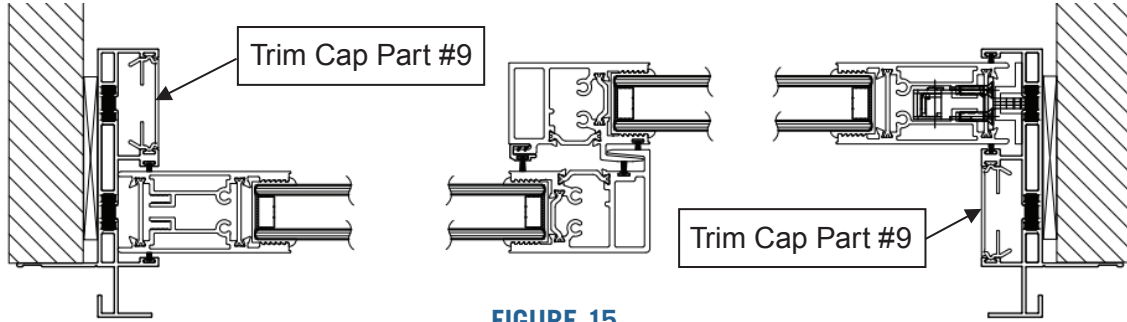

FIGURE 15
18. Install exterior and interior trim caps (Part #9) in jambs as shown in figure 15.